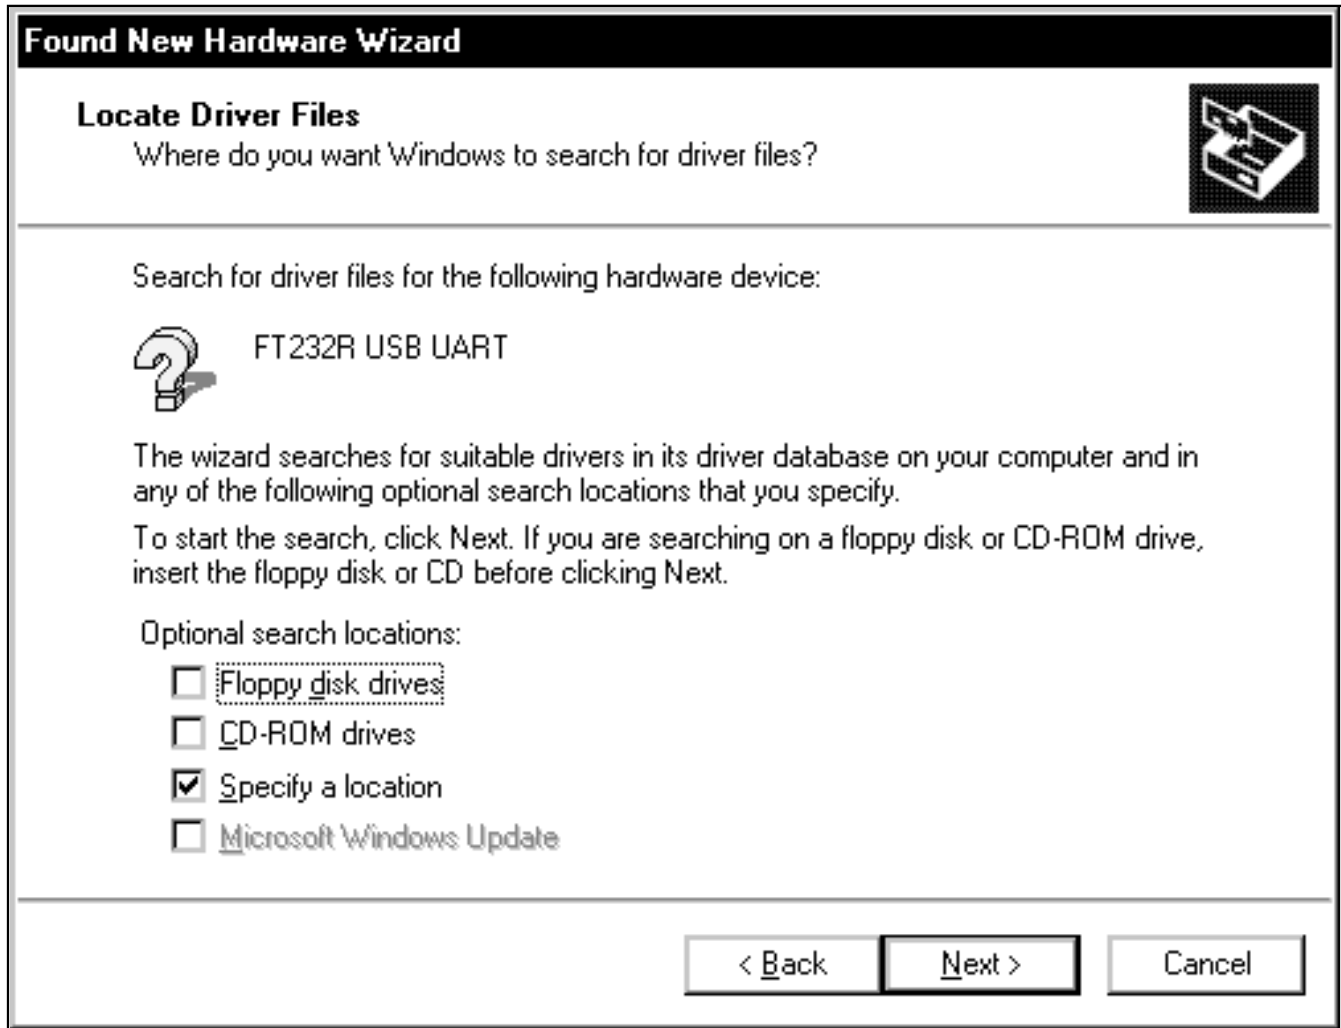

Figure 12. Windows 2000: **Found New Hardware Wizard | Locate Driver Files** Window
- 4) The **Found New Hardware Wizard | Locate Driver Files** window appears next (Figure 12). Check the **Specify a location** checkbox and press the **Next** button when finished.